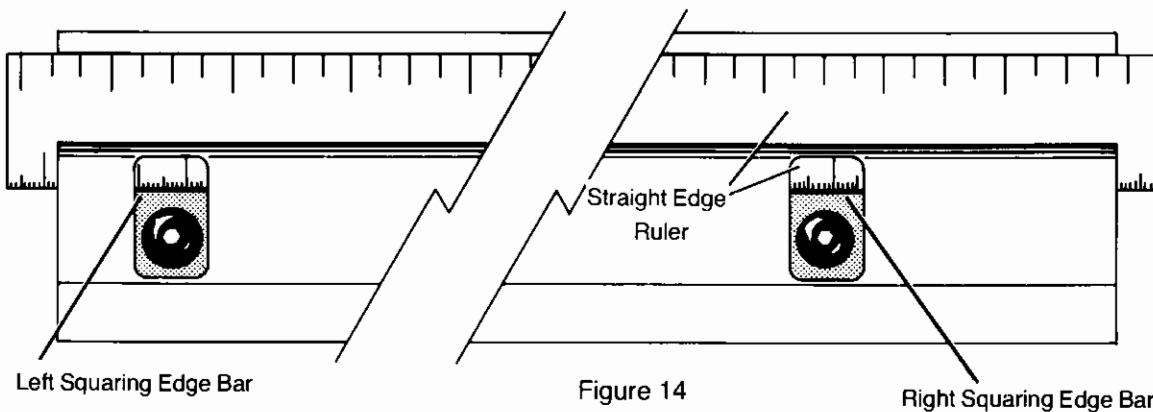

Figure 14
10. Lay a straight edge (at least 48 inches long) on the **Squaring Edge Bars** as shown in Figure 14 page 13 . Rotate the **Eccentric Hex** in the **Right Support** (remember, the button head screw is still loose), until the **Right Squaring Edge Bar** just touches the straight edge. You can check this by sighting along the under edge of the straight edge in the three windows in the **Left and Right Supports**. Tighten the button head screw in the **Eccentric Hex** firmly without letting the **Eccentric Hex** rotate.
3. Slide the straight edge to the right so it lays on the **Right Squaring Edge Bar** and the **Left Squaring Edge Bar**. Holding the left part of the straight edge down on the **Left Squaring Edge Bar**, adjust the right most (number 3) **Eccentric Nut** if necessary, to bring the **Right Squaring Edge Bar** in contact with the straight edge. Again this can be easily observed in the cut out. See Figure 14